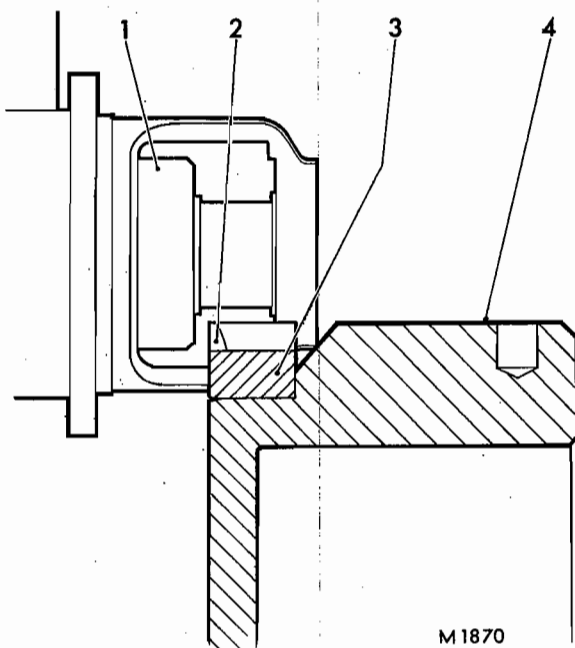

FIG. 4 RELATIONSHIP OF STARTER RING TO FLYWHEEL
4. Place heated ring quickly in position with lead on teeth facing uppermost, see Fig. 4. Ensure that back face of ring abuts flywheel.